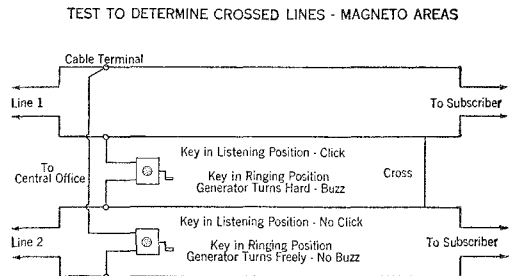

Fig. 14
5.07 When one of the crossed lines is unknown and no test deskman is on duty, the following test can be applied to identify the unknown line with which the known line is crossed. (See Figure 14.)